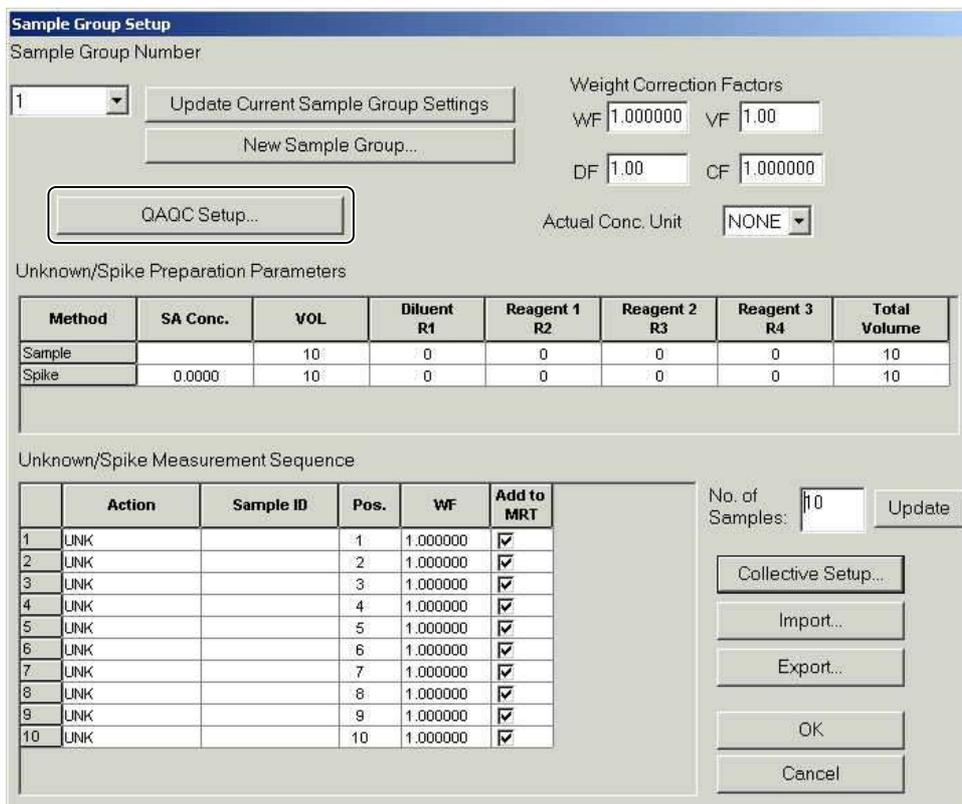

Fig. 6.6 [Sample Group Setup] Page
- (1) Click on the [Sample Group Setup] button in the [Preparation Parameters] page of the element selection wizard, and then the [Sample Group Setup] window shown in Fig. 6.6 is displayed.
- (2) Click on the [QA/QC Setup] button.
The SPK and PDS settings can be entered in the [Sample ID Collective Setup] dialog box displayed by clicking on the [Collective Setup] button in the [Sample Group Setup] Page in Fig. 6.6.
The [Unknown/Spike Measurement Sequence] table in the [Sample Group Setup] page shown in Fig. 6.6 also allows you to enter "SPK" and "PDS" actions by performing similar operations.
The [Unknown/Spike Measurement Sequence] table in the [Sample Group Setup] page shown in Fig. 6.6 also allows you to enter "DUP" action by performing similar operations.